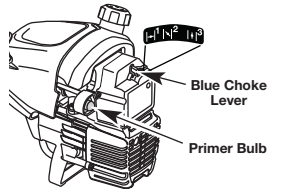

Fig. 18
- Fully press and release the primer bulb 10 times, slowly. Some amount of fuel should be visible in the primer bulb and fuel lines (Fig. 18). If you can't see fuel in the bulb, press and release the bulb as many times as it takes before you can see fuel in it.
- Place the blue choke lever in Position 1 (Fig. 18).
- Place the blue choke lever in Position 2 (Fig. 18).
- Once the engine is warmed up, place the blue choke lever in Position 3 (Fig. 18). The unit is ready for use.
- If... the engine hesitates, return the blue choke lever to Position 2 (Fig. 18) and continue warm-up.